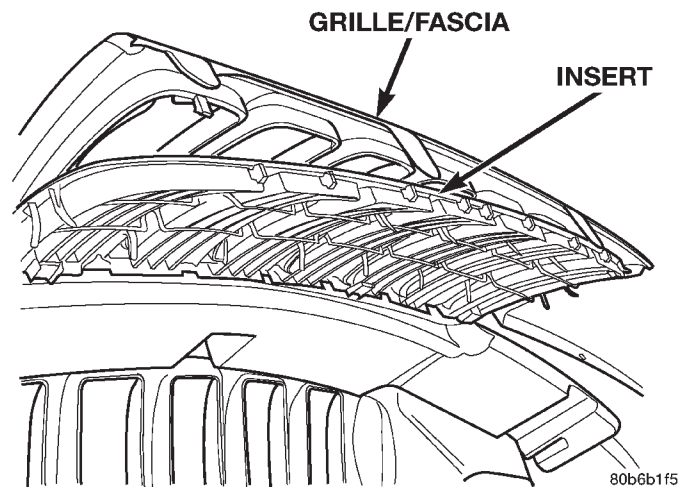

Fig. 1 Grille Insert
- (1) Remove fascia.
- (2) Disengage retainers attaching grille insert to grille/fascia.
- (3) Separate grille insert from grille/fascia (Fig. 1).